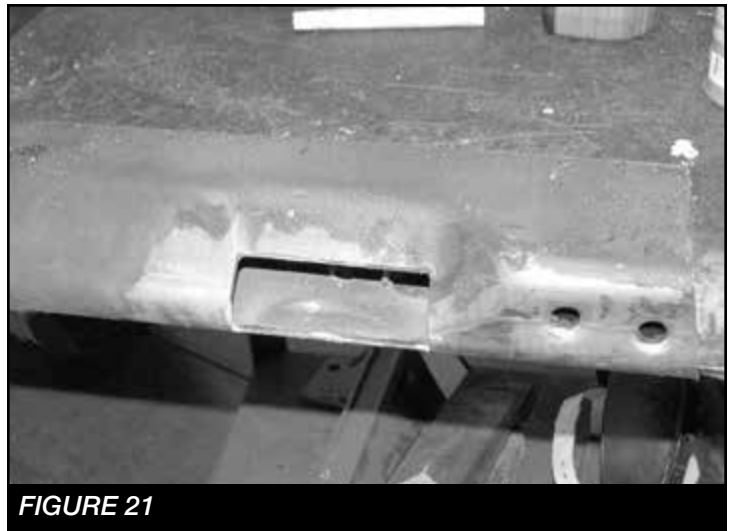

**FIGURE 19**
19. Using the passenger side differential mount, two 1/2"-13 x 4" bolts, nuts and washers, mount the passenger side of the differential. **NOTE: Run the bolts from the bottom up.** Torque the 1/2" bolts to 127 ft-lbs and the 12mm bolts to 100 ft-lbs. **SEE FIGURE 19**